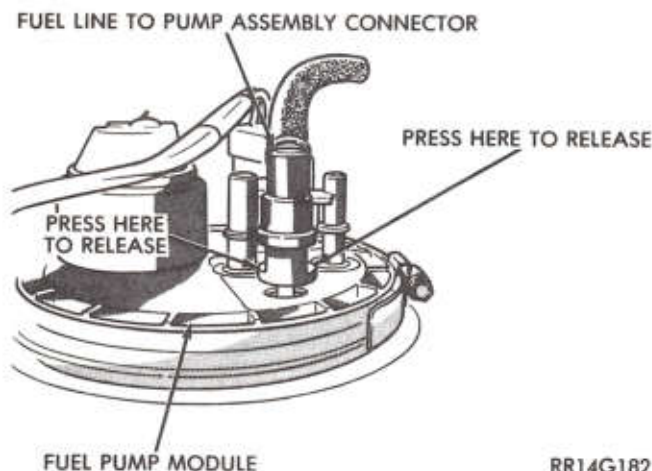

Fig. 4—Fuel Hose Fitting on Fuel Pump Module
gauge unit on top of the tank. For fuel injected vehicles squeeze locking tabs on connector to release (Fig. 4).
(1) Disconnect battery ground cable.
(2) Remove fuel tank filler cap before disconnecting any lines. The tank could be under a small pressure.
(3) Pump all fuel from tank into an approved portable holding tank. If this equipment is not available, disconnect fuel line and connect a siphon hose. Drain fuel tank dry into a properly identified "Gasoline" safety container.
(4) Raise vehicle on hoist.
(5) Place transmission jack under center of tank and apply slight pressure. Disconnect the two "J" bolts and remove retaining straps at the rear of the tank and lower tank from under vehicle.
(6) Disconnect fuel lines for (fuel injected vehicles squeeze locking tabs on connector to release (Fig. 4) and vent line and wire lead to gauge unit—remove ground strap.
(7) Remove fuel filler tube hose and fill vent hose from tank.
(8) Remove fuel tank.